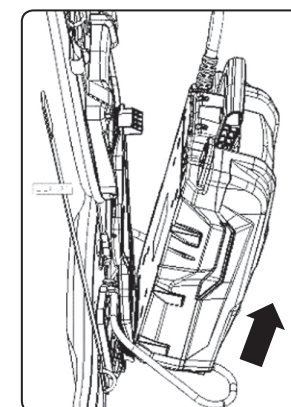

Fig. 4
- Press the button of the top click-in battery bracket (fig. 1b, position 3) and after releasing the top part of the battery, move the battery away from the backpack (fig. 4) and then lift it upwards to remove it from the bottom bracket (fig. 4).